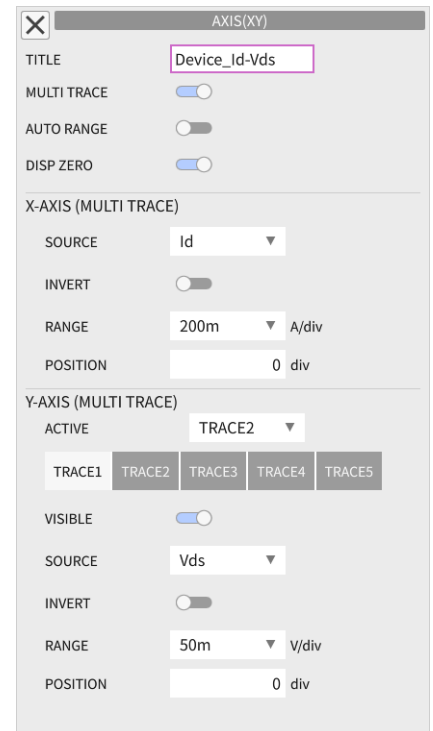

Figure 3.28:
Figure 3.28 shows the AXIS (XY) detailed setting screen when the MULTI TRACE switch is set to ON.